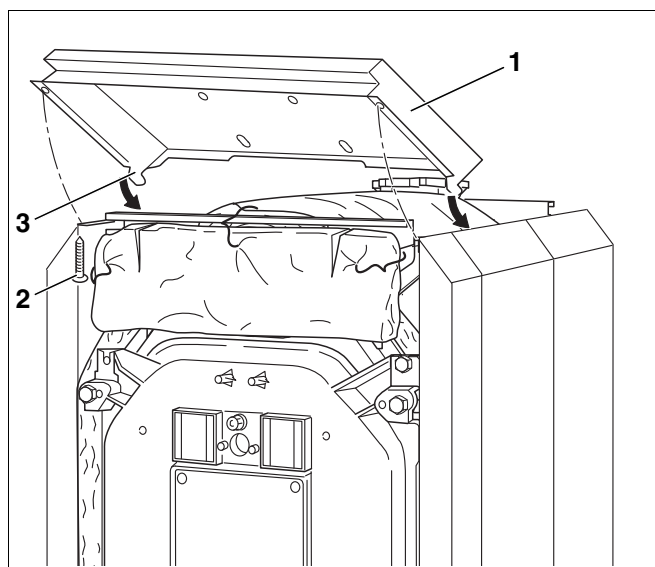

Fig. 52 Fitting the front hood
- Attach the front hood (Fig. 52, [1]) to the front side panels with the two hooks (Fig. 52, [3]).
- Screw the front hood to the longitudinal rails from below with two self-tapping screws (Fig. 52, [2]).